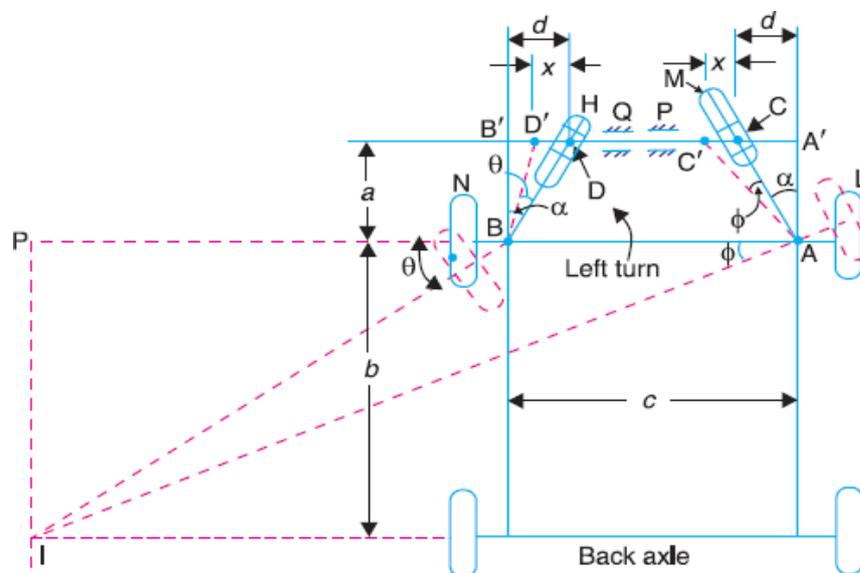

Fig. 2.11 Devis steering gear mechanism
- The Davis steering gear is shown in Fig. 2.11. It is an exact steering gear mechanism. The slotted links AM and BH are attached to the front wheel axle, which turn on pivots A and B respectively.
- The top and front views connecting the two shafts by a universal joint are shown in Fig. 2.11. Let the initial position of the cross be such that both arms lie in the plane of the paper in front view, while the arm AB attached to the driving shaft lies in the plane containing the axes of the two shafts.